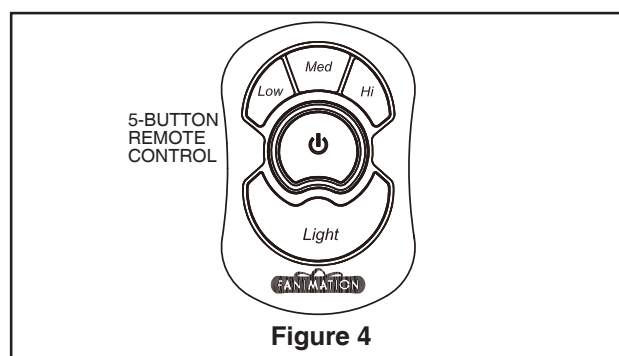

Figure 4
- ☐ 4. The 5-button hand-held remote transmitter includes buttons for high, medium and low fan speeds as well as fan off and light on/off. (Figure 4)